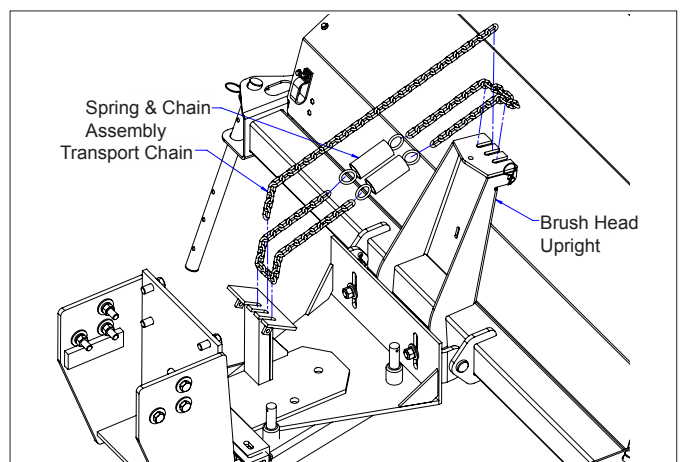

figure 6
5. If necessary, adjust the brush pattern with the spring-chain assembly (figure 6).
- b. Tighten the transport chain (figure 6) or lift cable and lower the sweeper so it supports weight.